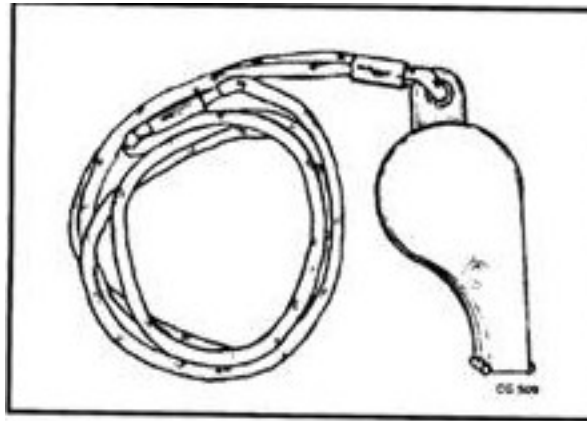

Figure 551-8ST-3028_05
6. Conduct maintenance on ring buoys (Figure 551-8ST-3028_06).